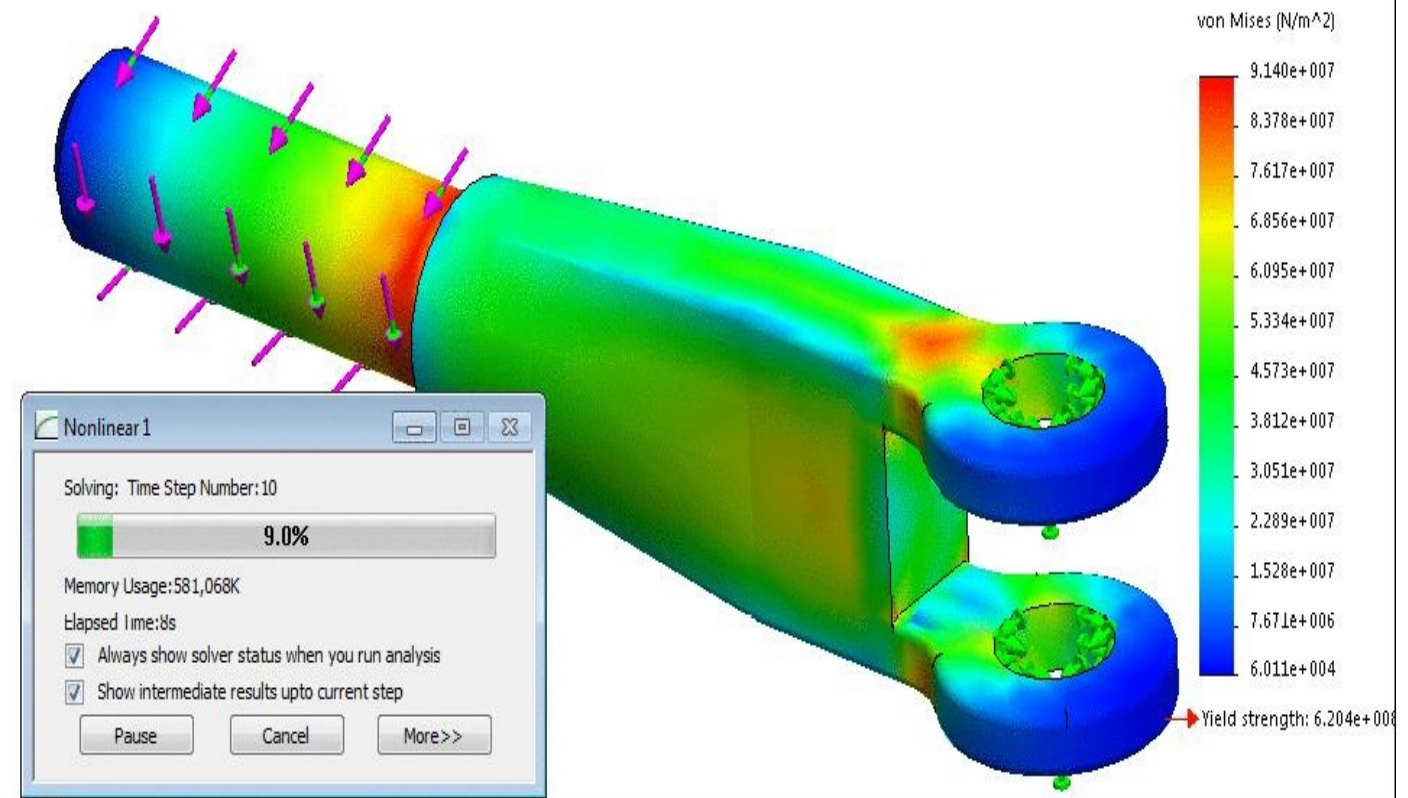

Figure-24. Running non linear analysis
- Click on the **Run This Study** button from the **Ribbon**. The intermediate results of analysis will be displayed; refer to Figure-24. Note that the intermediate results display is latest enhancement in SolidWorks Simulation.